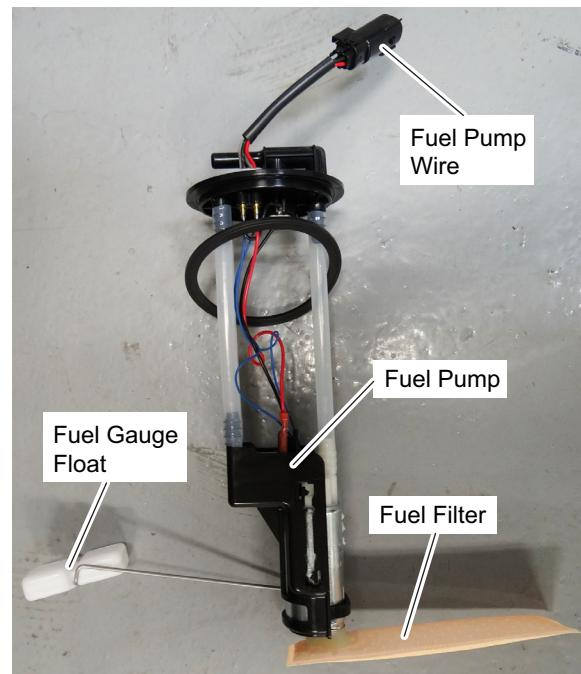

Fig. 2 Fuel Pump and Filter Assembly
**NOTICE:** The electric fuel pump, fuel filter, float and fuel gauge sending unit are integrated into one complete assembly (See Fig. 2). If any of these components fail, the complete assembly must be replaced.